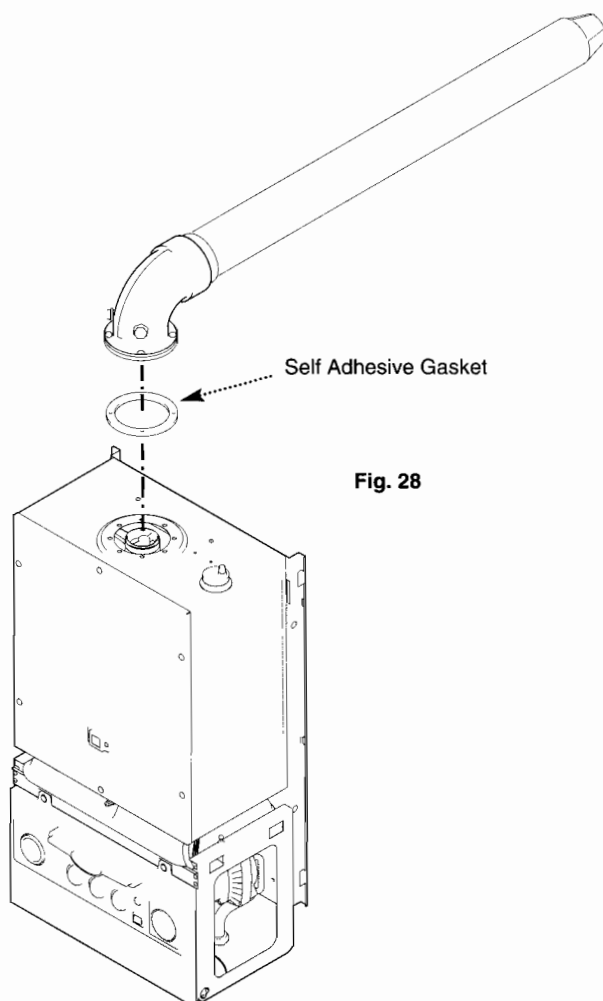

Fig. 28
15. Peel the backing paper off the adhesive on the flue gasket. Fix the gasket to the flue elbow (Fig. 28).
20. Engage the elbow on to the flue connection on top of the boiler. Secure with the four screws (Fig. 28).